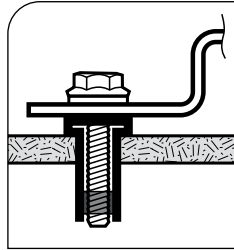

Fig. 7.5. The 5-hole mounting bracket is placed against the flange of the Well-Nut and is secured by the bolt engaging the captive brass nut.
10. Fasten the mounting brackets to the roof surface by inserting the ¼ x 1¼" serrated flange bolt into the Well-Nut (Fig. 7.5). Tighten using a 3/8" wrench to a recommended torque of 15 lbs. When the serrated flange bolt is screwed into the Well-Nut, the material surrounding the well nut bulges slightly securing the structure to the RV roof (Fig. 7.6 & 7.8).